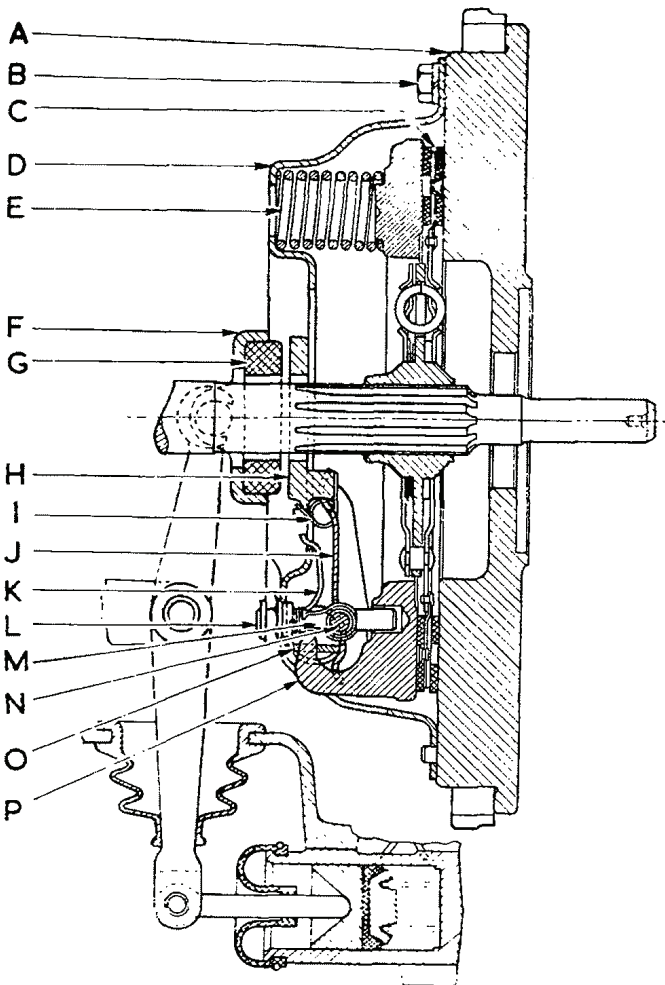

Fig. E.1.
Each release lever is pivoted on a floating pin (N), which remains stationary in the lever and rolls across a short flat portion of the enlarged hole in the eye-bolts (M) (see Fig. E.1). The outer ends of the eye-bolts extend through holes in the clutch cover and are fitted with adjusting nuts (L) by means of which each lever is located in its correct position. The outer or shorter ends of the release levers engage the pressure plate lugs by means of struts (O) which provide knife-edge contact between the outer ends of the levers and the pressure plate lugs, eliminating friction at this point. Thus the pressure plate (P) is pulled away from the driven plate (C), compressing the six thrust coil springs (E) which are assembled between the pressure plate and the clutch cover (D).
Lay the cover over the parts, taking care that the anti-rattle springs are in position as shown in Fig. E.1 and that the springs are directly under the seats in the cover. Also make sure, if using the original parts, that the eyebolts, eyebolt nuts, pressure plate lugs and cover are fitted in their correct relative positions, as marked when dismantling, to ensure correct balance being maintained.